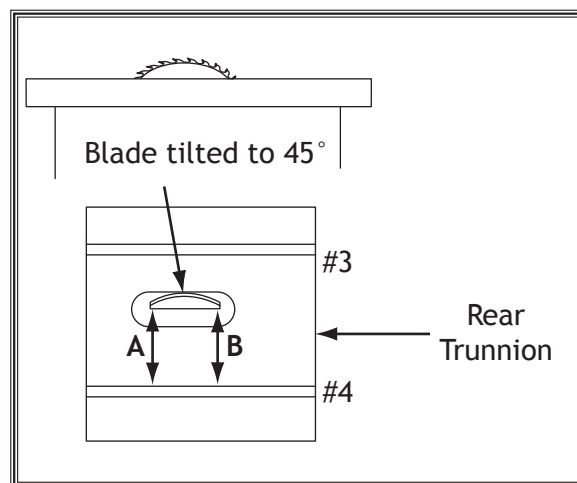

Figure 99. Locations of the rear trunnion shims.
- If the distance of **B** is greater than **A**, remove one shim from each side of the rear trunnion (locations #3 and #4 on **Figure 99**).